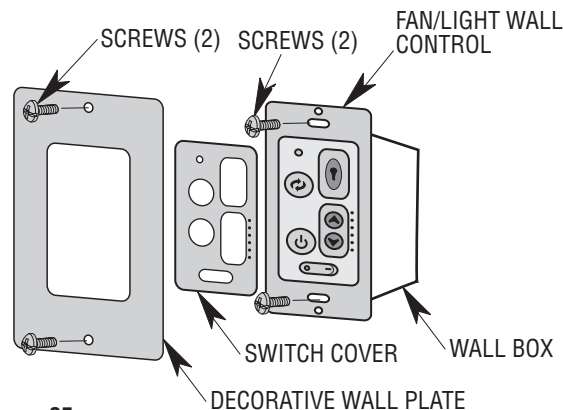

Figure 35
Connect the Second Wall Control Black Wire labeled "TO POWER SUPPLY" to the Traveler Wire(s) already connected to the Black Wire (in the other wall box). Secure with Wire Connectors, supplied (Figure 35).
Connect Second Wall Control Black Wire labeled "TO FAN" to the "LOAD" (Black) Wire and secure with Wire Connector, supplied (Figure 35).
Connect the Second Wall Control Green Ground Wire to the Supply Ground Conductor (this may be a bare wire or wire with Green Colored insulation). Securely connect Wires with Wire Connector, supplied (Figure 35).
**NOTE: Retrofit 3-way installations are likely to include two traveler wires between the two wall boxes. In new construction, only one traveler wire is required (Figure 35).**
All Wall Controls are supplied with a White, Ivory, and Almond color Switch Covers. Choose the finish that best suits your needs and snap the Covers onto the Wall Controls (Figure 35).
Install Decorative Wall Plates using the Two Screws provided with each Wall Plate. Leave the Wall Control in "OFF" mode until Fan installation is completed (Figure 35).